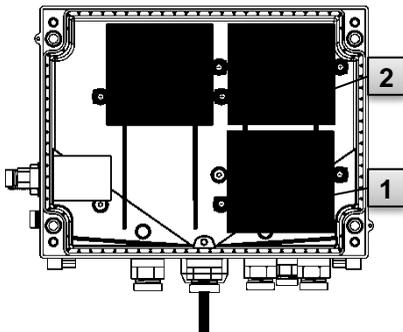

Fig. 28
4. Loosen the screws on the battery cover Fig. 28: **1** or **2** and remove the battery cover.
7. Place the new batteries inside (Fig. 28: **1** or **2**).